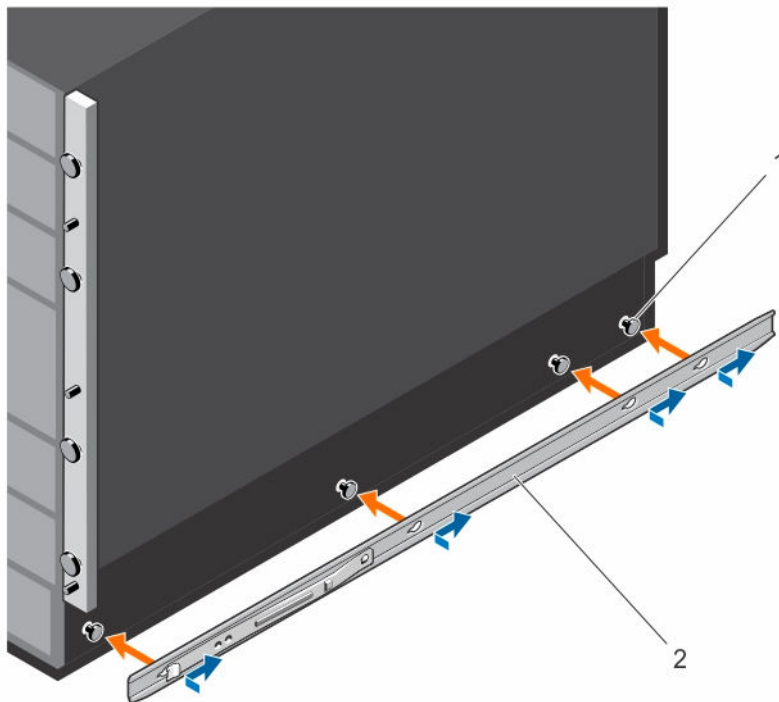

Figure 12. Installing Chassis Rail for Toolless Ready Rail Installation
- Align the holes on the right and left chassis rails with the mounting studs at the bottom of each side of the chassis (orange arrows and item 1 in Figure 12).
- Press each chassis rail over the studs and slide it backwards (towards the back of the chassis) so that it snaps securely into place (blue arrows and item 2 in Figure 12).